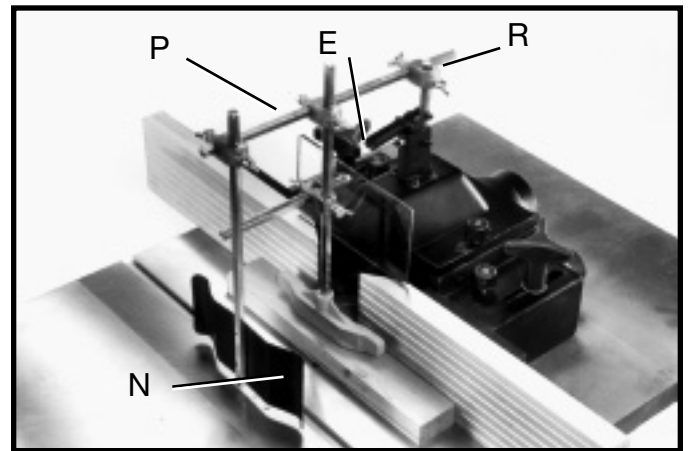

Fig. 59
4. Loosen thumb screws on guard mounting bracket (P) Fig. 59, and adjust spring clamp (N) so it will provide inward pressure on workpiece, then tighten thumb screws. NOTE: Thumb screws on guard mounting bracket (R) Fig. 59, can be loosened to permit extension of guard assembly.
⚠ WARNING ALWAYS MAKE CERTAIN GUARD LOCKING HANDLE (E) FIG. 59, IS IN THE LOCKED POSITION AS SHOWN AND ALL THUMB SCREWS ON GUARD ASSEMBLY ARE TIGHT BEFORE TURNING SHAPER ON.